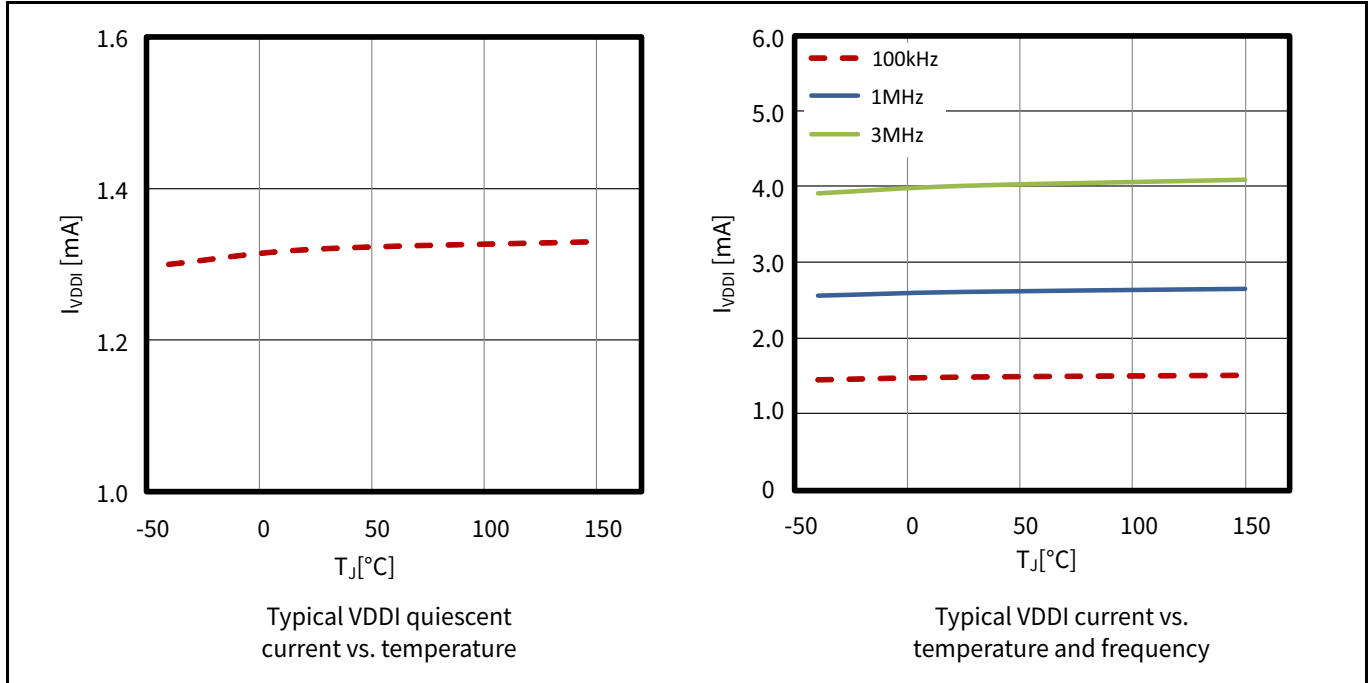

**Figure 6 Output UVLO behavior (output state high)**
**Figure 6** illustrates the Undervoltage Lockout function for the output supplies.